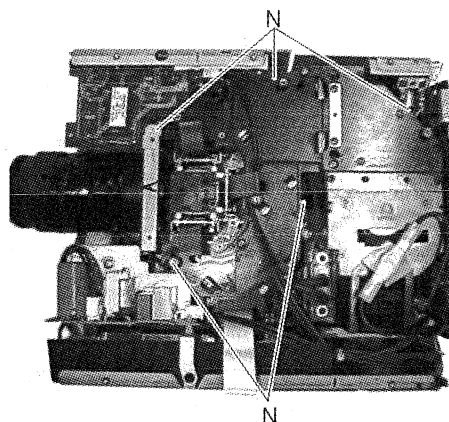

Fig. 4.12
4.8 Removing the lighthouse (fig. 4.12)